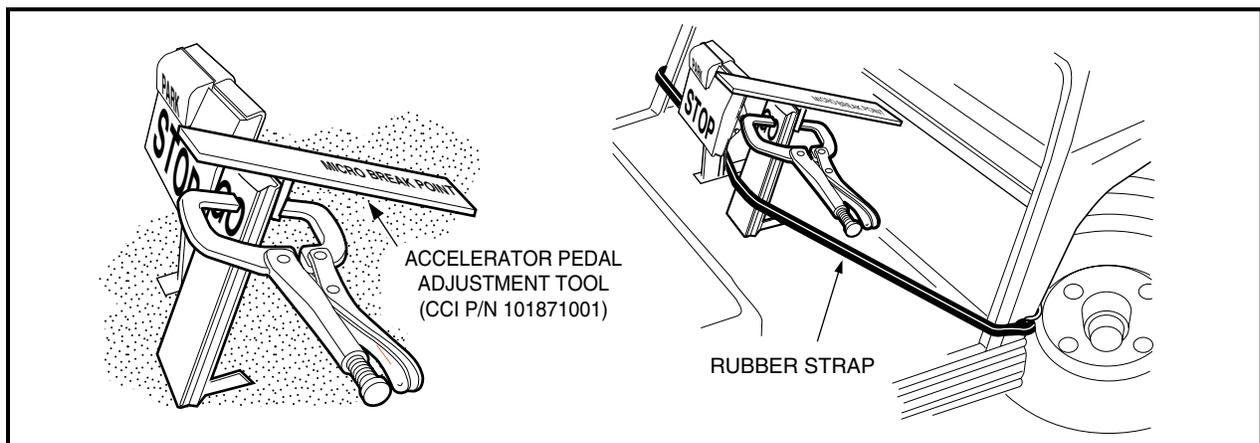

Figure 5-21 Accelerator Pedal Height Adjustment
- 5.2. Clamp the accelerator pedal adjustment tool (CCI P/N 101871001) to the accelerator pedal, with the end marked *accelerator pedal height* closest to the floorboard (**Figure 5-21, Page 5-15**). Press the accelerator pedal until the end of the tool rests against the floorboard; (pedal height should be 5-5/8 inches (14.3 cm)). Use a rubber strap to hold pedal in position against the floorboard and then tighten nut to 26 ft-lb (35.3 N·m).